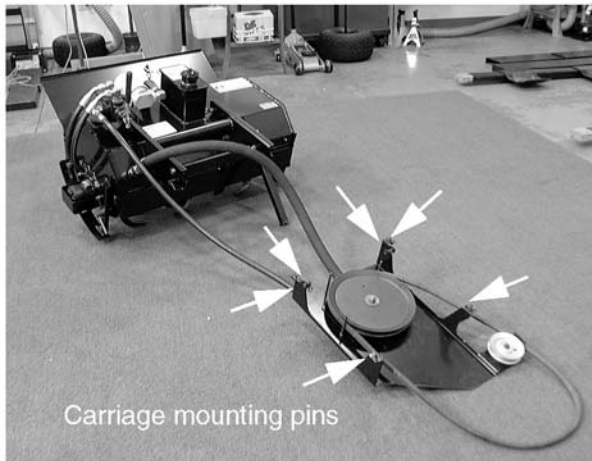

Figure 8-66.
2. Remove the six hairpin clips and four washers from the mounting points of the undercarriage. See Figure 8-66.